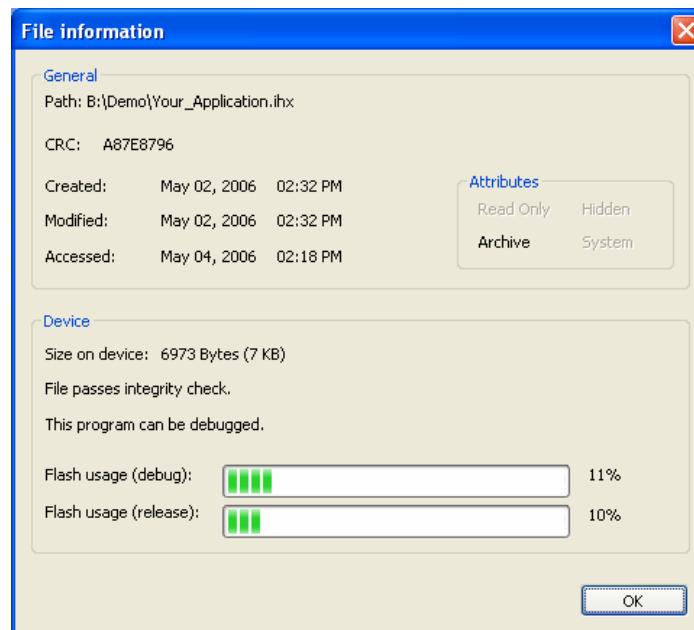

Figure 6: Extended file information
- File attributes: If the file is read-only, hidden, archive or system. Figure 6 displays an archive file.